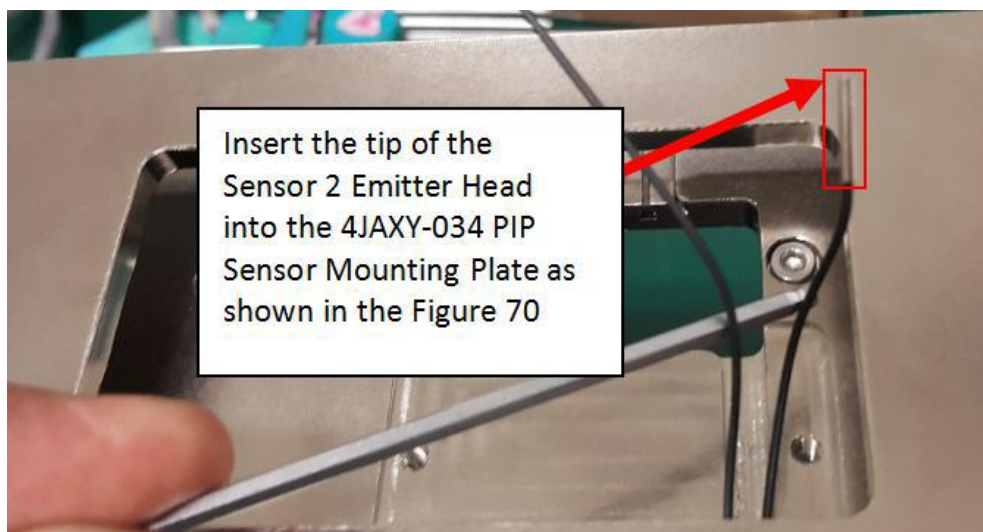
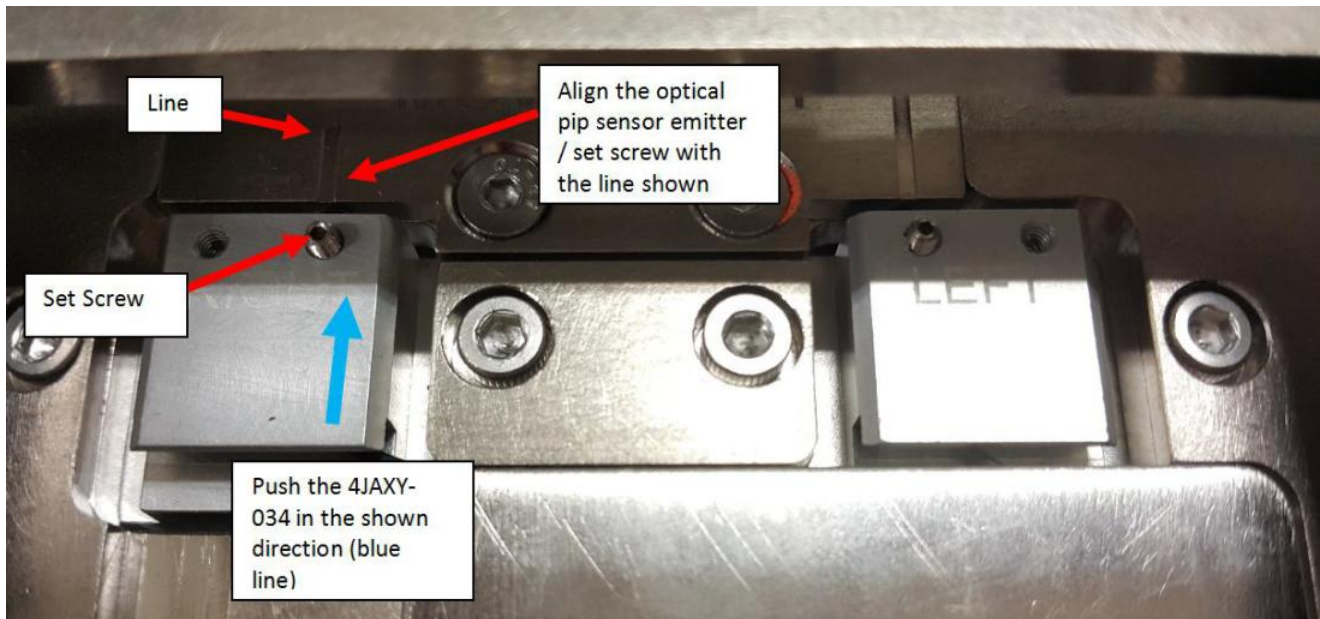

Figure 22 Sensor 2 Emitter Head
Figure 25 4JAXY-058
2. For emitter installation, insert Sensor 2 Emitter Head into 4JAXY-058 (PIP Sensor Mounting Plate 2) as shown from Figure 22 to Figure 25
3. Push 4JAXY-058 PIP Sensor Mounting Plate 2 to maximum direction (Blue arrow) and align with the line as shown in the Figure 25.